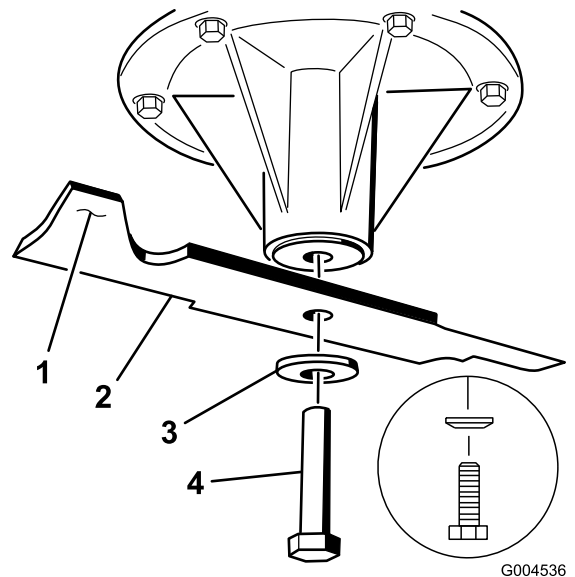

Figure 94
1. Install the blade onto the spindle shaft (Figure 94).
2. Install the spring disk and blade bolt (Figure 94).
Note: The spring-disk cone must be installed toward the bolt head (Figure 94).